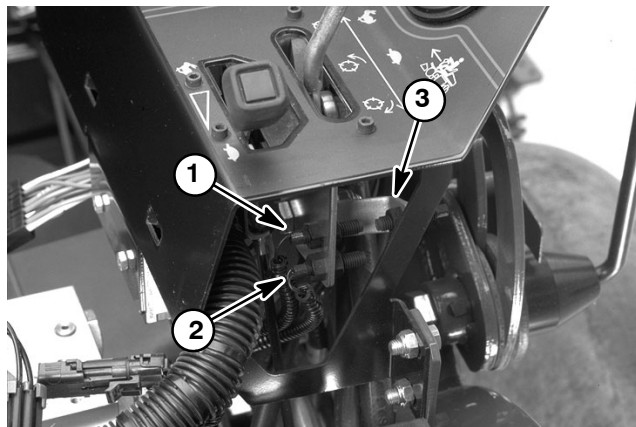

Figure 18
The neutral and mow sensors are used to determine when the functional control lever is in the NEUTRAL or MOW position. These sensors are identical and are normally open reed sensors. They close when the actuator comes in close proximity to the sensor. The sensors are attached to the functional control lever bracket under the console panel (Fig. 18). The actuator is attached to the functional control lever.
2. Place the functional control lever in the NEUTRAL position. The NEUTRAL sensor should be closed (continuity) and the MOW sensor should be open (Fig. 18).
3. Place the functional control lever in the MOW position. The NEUTRAL sensor should be open and the MOW sensor should be closed (continuity) (Fig. 18).